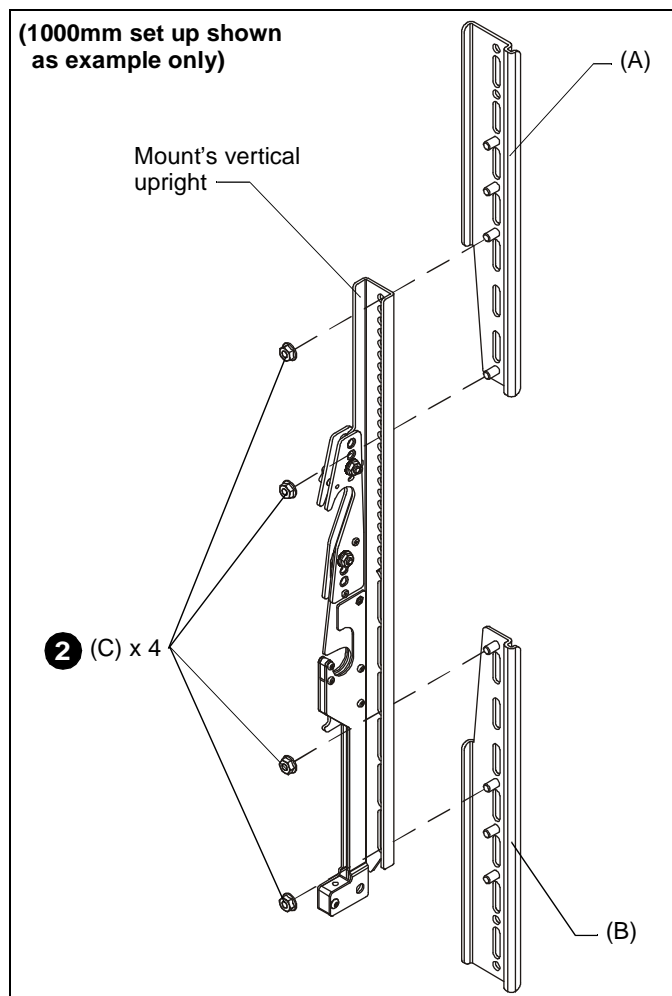

Figure 1
2. Attach the adapter - top (A) and adapter - bottom (B) to the mount's static or tilt uprights using four 5/16" flanged hex nuts (C) on each upright. (See Figure 1)